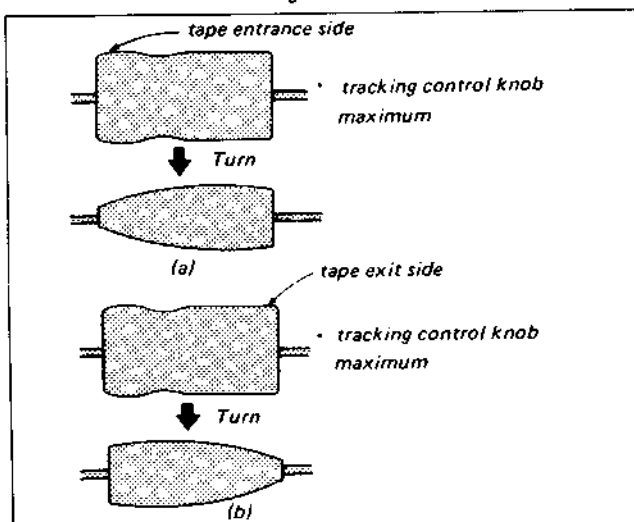

Fig. 4-3.
- 6) If the entrance waveform cannot be made flat, as shown in Fig. 4-3 (a), by turning the tracking knob, go through the "entrance side adjustment" described in 4-1-2, if the exit waveform shown in Fig. 4-3 (b) cannot be made flat, go through the "exit side adjustment" in 4-1-3.